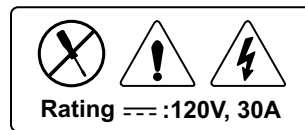

Figure 15. Power ratings label on battery unit of uninterruptible power supply
4. Power ratings label. See Figure 15.